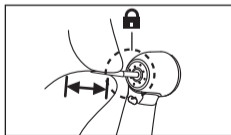

Fig. 10
- 4 Make sure that the bur is not removed by gently pulling and pushing the bur without depressing the push button (Fig. 10).